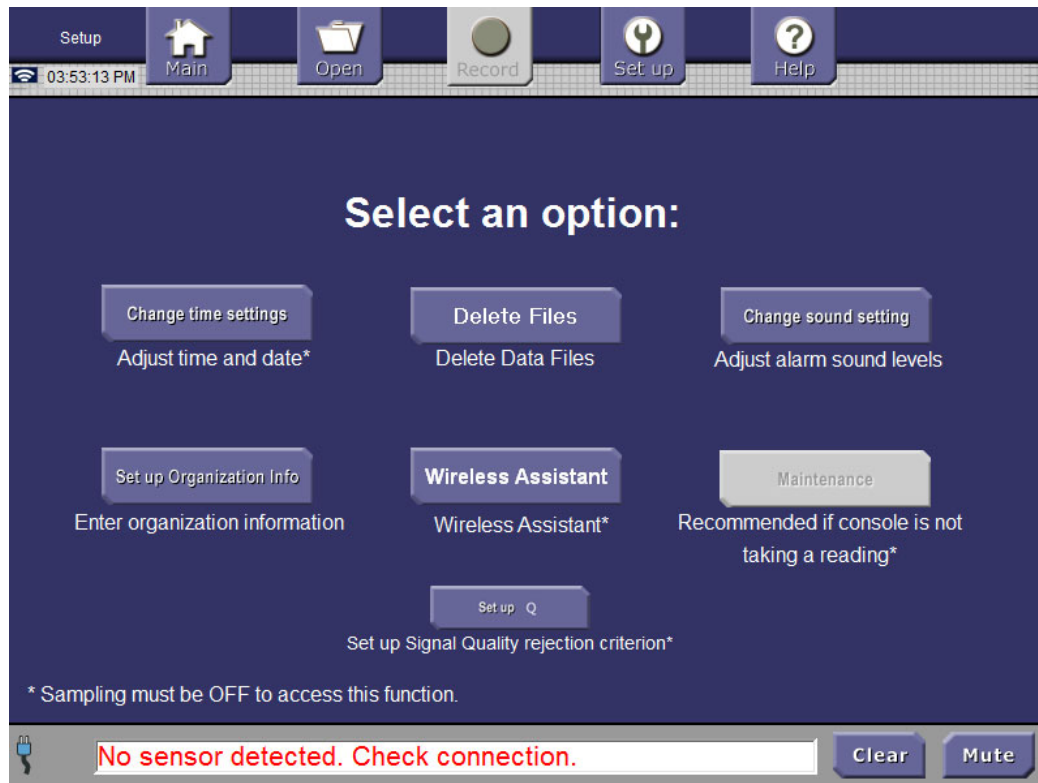
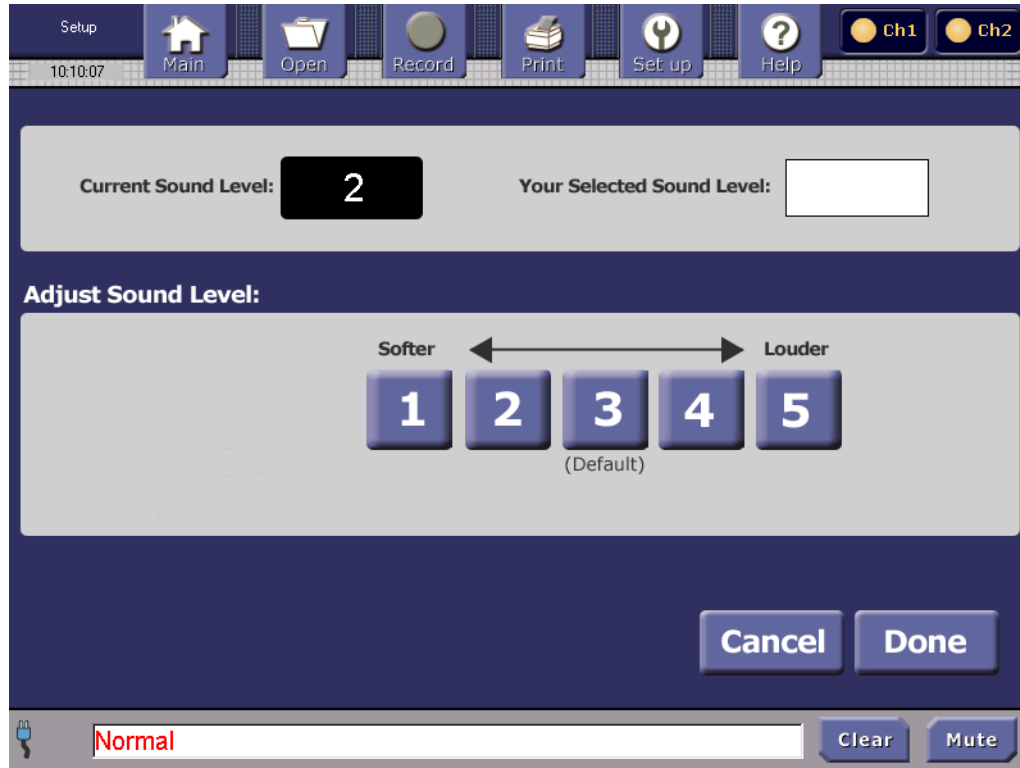

Figure 17. Setup Screen
Figure 21. Set Up Sound Level of Alarms
1. In the Setup screen (Figure 17), press the **Change sound setting** button. The **Set Up Sound** screen is displayed, as shown in Figure 21.
3. Press **Cancel** to not change the sound level and return to the **Setup** screen (Figure 17); **Or:**
Press **Cancel** to return to the **Setup** screen (Figure 17);
When you are finished with sensor self-tests, tap the **Done** button to return to the **Setup** screen (shown in Figure 17).